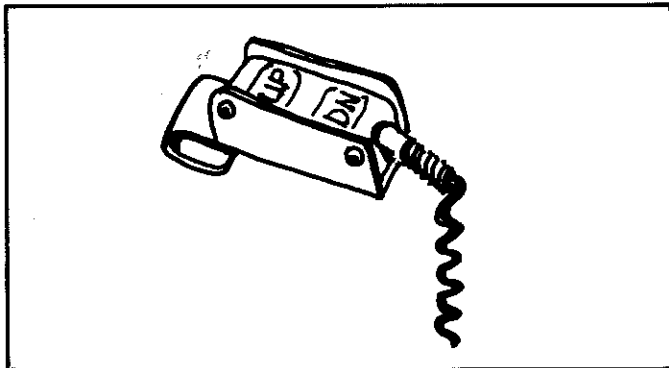

Figure 3-1
1. To raise and lower the stretcher or seat assembly, take the hand held control from its stored position on the top portion of the hanger rod and hold it in your hand. Figure 3-1.